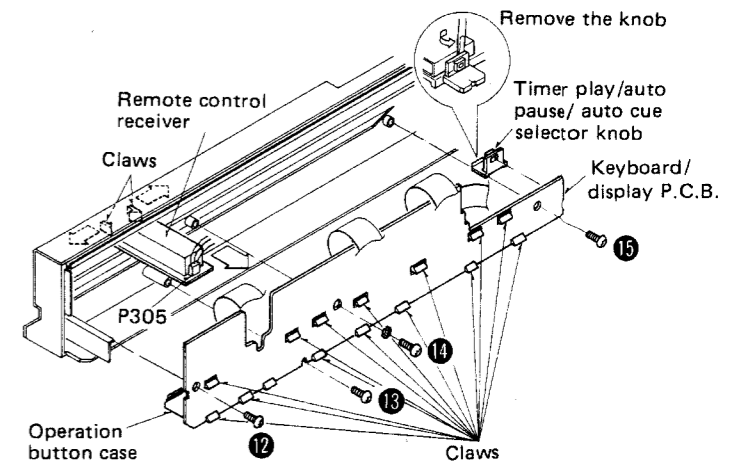

Fig. 7
3. Remove the 4 setscrews [Fig. 7 : ⑫ ~ ⑮] of the keyboard/display P.C.B., then the keyboard/display P.C.B. can be removed.
3. Pull out the connector (P305) of the remote control receiver. [Fig. 7]